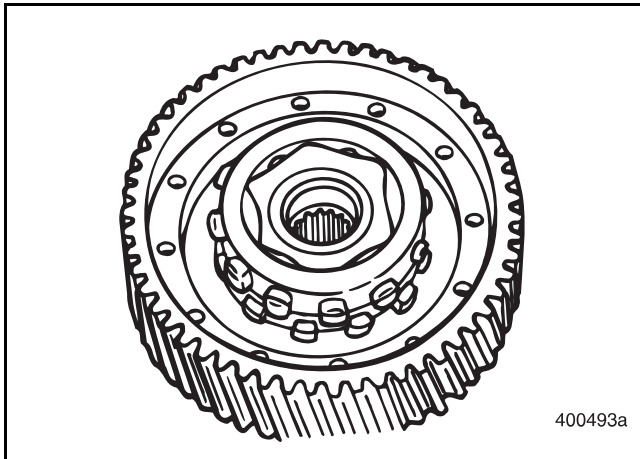

Figure 271 — Inner Cam Installed
11. Dip the hub of inner cam in GO-J oil. Install the cam in the cage as shown in Figure 271.